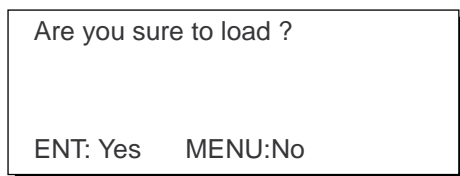

Figure 8-17
- 4) Press ▶ to select Start. The message shown in Figure 8-17 appears.